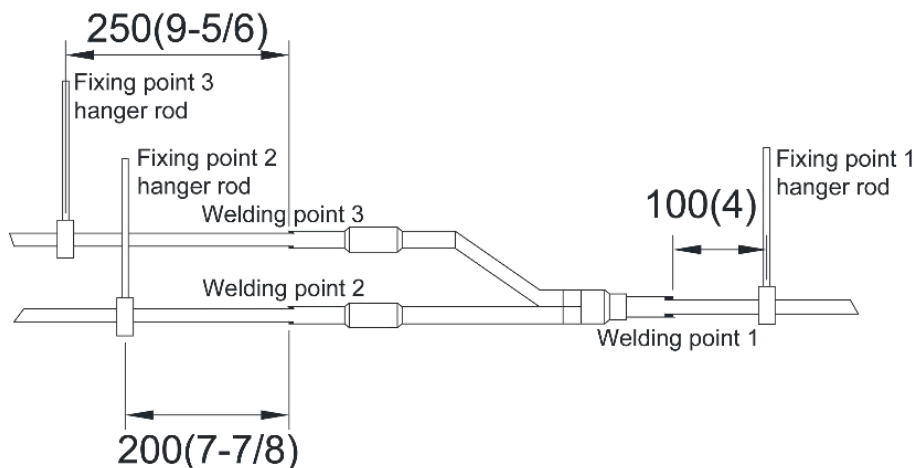

Fig.38
(3) There must be three fixing point for both horizontal and vertical installation of the Y-type manifold. See Fig.38.